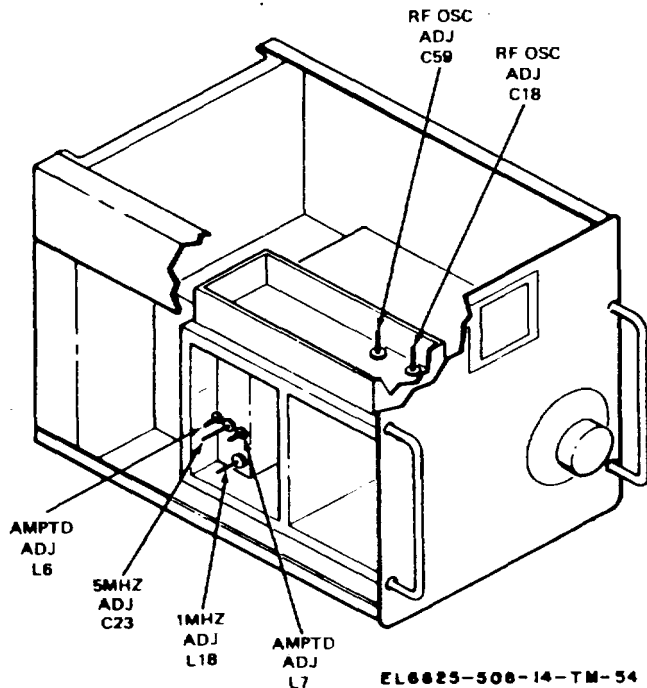

Figure 6-25. Crystal calibrator and rf oscillator, adjustment location.
(4) Adjust L18 (fig. 6-25) in clockwise direction. Two separate beat frequencies should be heard in headset within one full turn of L18; adjust L18 to audible null in first beat note obtained.
(5) Set XTAL CAL switch at 5 MC.
(7) Refer to figure 6-25. Adjust 5 MHz ADJ C23 to obtain a display of 5 MHz on AN/USM-207.
(9) Set signal generator's FREQUENCY RANGE at E and MEGACYCLES dial at 360 MHz.
(10) Refer to figure 6-25. Adjust AMPTD ADJ L6 to obtain loudest beat note; then slightly decrease loudness; adjust L7 in exactly the same manner.
(10) Refer to figure 6-25. Adjust C59, RF OSC ADJ, for a 480 MHz display on the frequency counter. If this indication cannot be obtained, even with C59 maximum capacitance (slug turned all the way in), back C59 out one turn, and adjust C18 to obtain the 480 MHz display. Now check the signal generator's MEGACYCLES dial accuracy at 216 MHz, range D; 95 MHz, range C; 44 MHz, range B; and 22 MHz, range A. If, at these settings, dial accuracy is within specifications, proceed to step (11). If not, perform the more complete rf oscillator adjustment procedure given in paragraph 6-1 j.
(11) Check the signal generator's MEGACYCLES dial against the frequency counter at 10 MHz, band A; 20 MHz, band B; 40 MHz, band C; 90 MHz, band D; and 210 MHz, band E. Refer to NOTE, in f above. If dial is inaccurate, repeat step (10). If the dial still does not meet specifications, the signal generator must be returned to the depot.
(1) These procedures are to be followed if those outlined in preceding subparagraph i step (11), are not sufficient to calibrate the FREQUENCY DIAL; they must be followed if the D and/or E oscillator coils have been replaced. Refer to figure 6-25. If C59, RF OSC ADJ, is adjusted to calibrate the high frequency end of range E, it is likely that the remaining four coils will have to be adjusted.
(6) Set FREQUENCY RANGE switch at E, and observe frequency counter display. If the indication is not 210 MHz, set the switch between E and D, and move loop again. Continue these procedures until the frequency counter displays 210 MHz.
(7) Set signal generator's MEGACYCLES dial at exactly 480 MHz. If oscilloscope does not display 480 MHz, refer to figure 6-25, and adjust C59 until it does.
(8) Carefully observing previous cautions, repeat steps (5), (6), and (7) to obtain the best compromise between the low and high end frequencies.
(9) Refer to Section V, table 6-4, and perform the frequency dial calibration and Rf Oscillator Drift Tests. If any portion of range E is out of specifications, the signal generator must be returned to the depot for manufacture of a new MEGACYCLES dial.
(10) Refer again to Section V, table 6-4, and perform the frequency dial calibration and rf oscillator drift tests for ranges A through D. If test results so indicate, adjust range D oscillator coil. Refer to paragraph 6-1lg; remove casting side cover, and connect AN/USM-207 electronic frequency counter INPUT to signal generator's UNCAL RF OUTPUT connector.
(11) With signal generator's FREQUENCY RANGE switch at D, set MEGACYCLES dial at exactly 216 MHz. Then, in order to remove high voltage from turret, set FREQUENCY RANGE switch between the D and C ranges.
(12) Loosen ring, on range D plastic coil form with coil dope thinner, and reposition ring. Set FREQUENCY RANGE switch at D, and observe frequency counter display. Continue to reposition ring, on a trial and error basis, until the frequency counter displays; 216 MHz. Do not reposition ring unless the FREQUENCY RANGE switch is between ranges.
(13) With FREQUENCY RANGE switch still at D, set MEGACYCLES dial at 90 MHz. At this setting the frequency counter should indicate 90 MHz, plus or minus 5%. If not, repeat 216 MHz adjustment for the best compromise, within specifications, between the high and low end frequencies. However, if specifications cannot be met, the signal generator must be returned to the depot.
(14) Cover ring with coil dope.